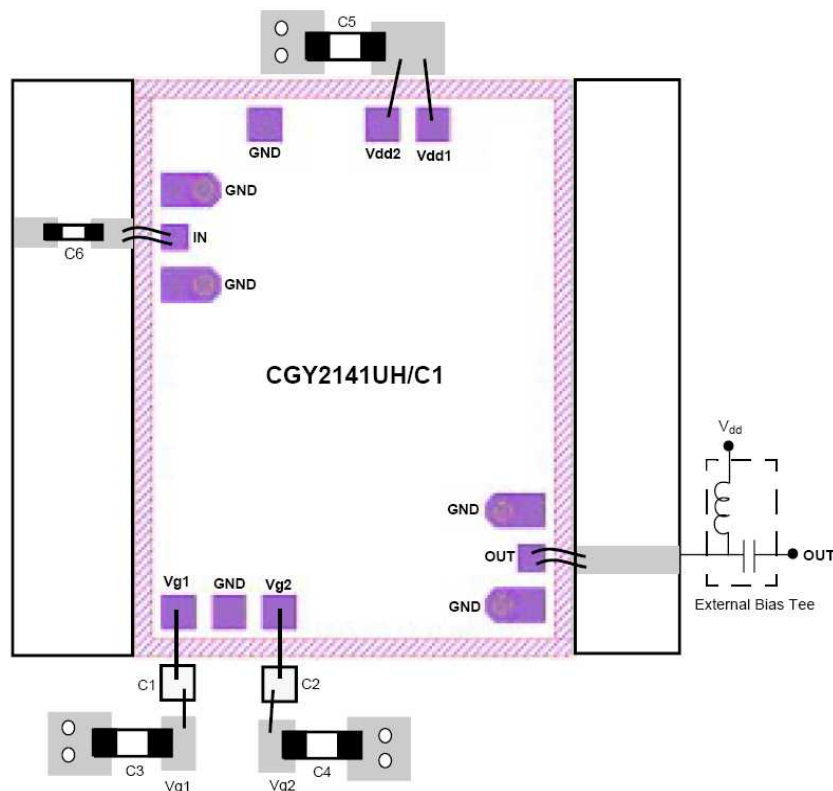
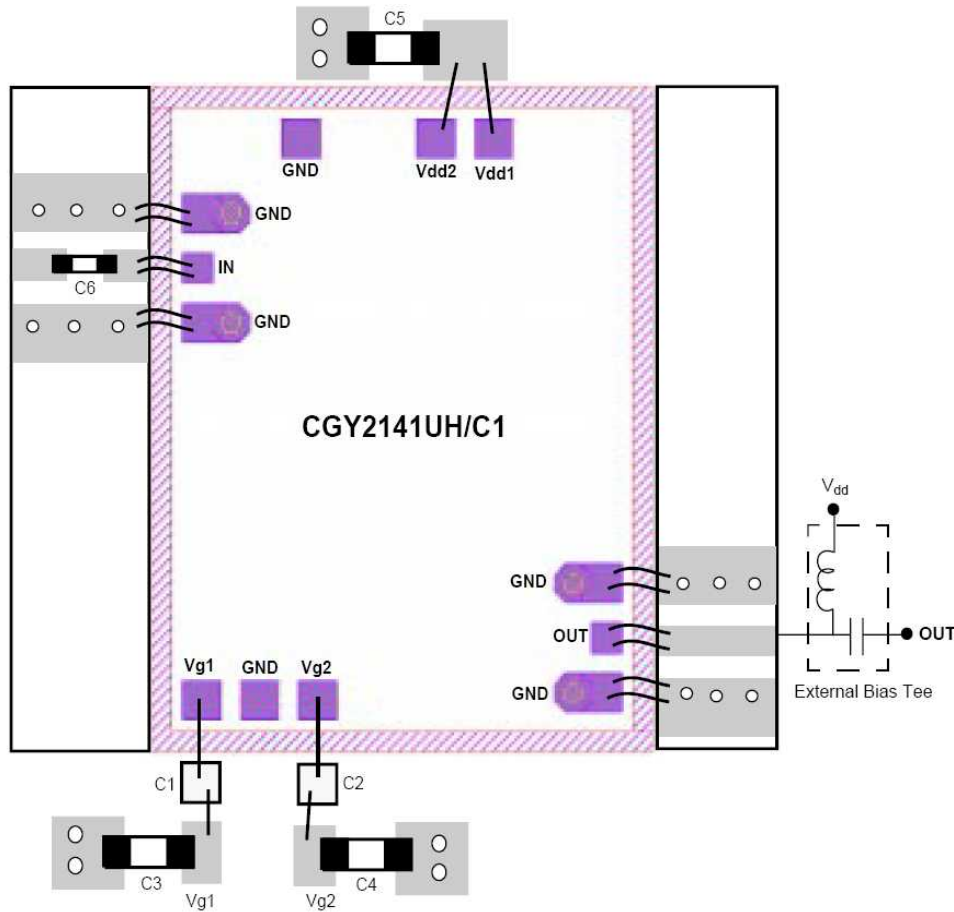

Figure 1: CGY2141UH/C1 module layout : microstrip assembly
Figure 2: CGY2141UH/C1 module layout : coplanar assembly
- 2-Low frequency gain ripple assumes the use of drain decoupling close to the chip, as proposed on the figure 1 and 2.
Two module layouts are proposed in figure 1 and 2. In figure 1, RF input and output accesses are built in microstrip transmission line. While in figure 2, coplanar transmission line are used and will give similar performance. All path lengths and physical sizes of the components should be minimized.
In figure 1 and figure 2, C1, C2 (47 pF) and C3, C4 (100 nF) capacitors are used to improve the power supply rejection, while C5 (100 nF) is used for low frequency gain extension. C6 is a link capacitor used to isolate the amplifier from external circuitry. C6 (100 nF) will give a low frequency cut-off down to a few kHz.